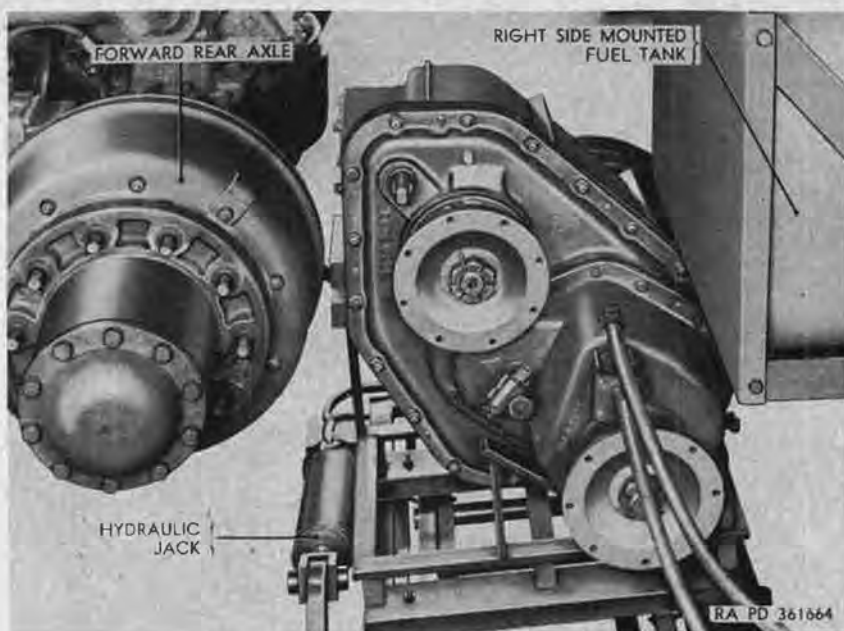

Figure 207. Pulling transfer from under right side of truck.
- (14) Turn hydraulic jack until right side of transfer is parallel to forward rear axle (fig. 207), and pull jack and transfer from under right side of truck.
- (2) With transfer supported in lowered position on hydraulic jack, push jack and transfer under right side of truck immediately forward of and parallel to forward rear axle (fig. 207).